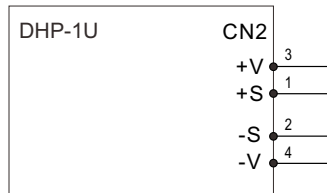

Figure 3-5 Connection of Local Sense
- ⊙ The +S and -S have to be connected to the +V(signal) and -V(signal), respectively, as shown in Figure 3-5, which is Local Sense, in order to get the correct output voltage if Remote Sense is not used. Otherwise, the output voltage will increase to a extremely high level which may trigger OVP.